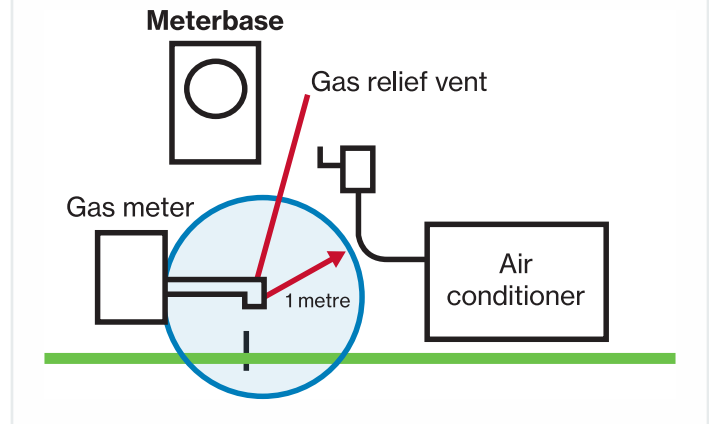

Figure 1: Minimum clearance required between electrical equipment and Gas relief source
2. Limited Relief: Overpressure Cut-Off (LR-OPCO) devices (that relieve 1.5 m³/hr or less) can be installed no closer than 0.3 metres to the electrical equipment listed in item 1) above, when measured from the relief vent. The use of LR-OPCO regulators is an alternative to use when the relief vent clearances cannot be met, either by placement of a typical regulator, or by piping it away.
3. Figure 1 shown at right is from ESA Bulletin 2-10-9, and shows the relief vent being placed at least 1 metre away from **electricity meter bases**. This is applicable **ONLY** when there are integral internal contacts in the meter used for recording or remote readings. (i.e. Load limiter). However, the ESA has informed Enbridge Gas that since the electricity distributor reserves the right to install arc-producing metering devices at any time they choose, each distributor may also choose to enforce this rule even if the installation presently complies with the Electrical Safety Code.
Figure 1 illustrates an example of an installation that complies with the minimum requirements.